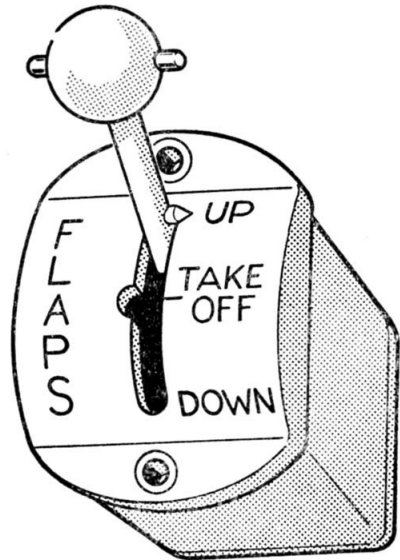

Fig. 1. Lever switch, Type C1223Y, Mk. 5
2. A general view of a typical switch of this range, the Type C1223Y, Mk. 5, is shown in fig. 1; details of the various Marks are given in fig. 2. The switch is a single-pole selector, connecting one common terminal to any one of a number of individual terminals. The lever has a total angular travel of 60 deg., and may be fitted with one of various designs of handle.